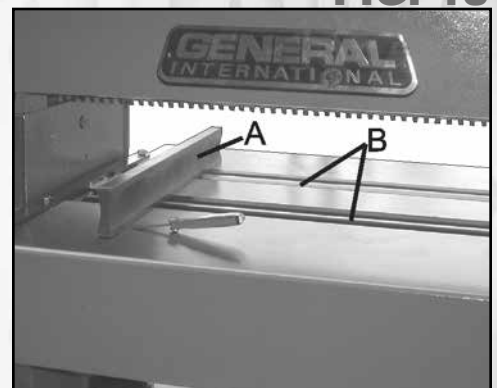

FIG. 18
2. With the table rolls in the lowest position, place a straight edge (A) Fig.18, across both table rolls (B) or the left side of the table as shown.